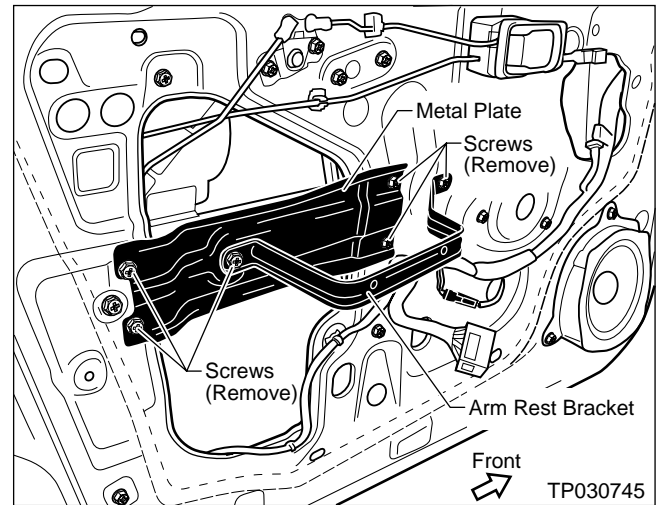

Figure 6
8. Take out six screws and remove the Arm Rest Bracket and Metal Plate (see Figure 6).